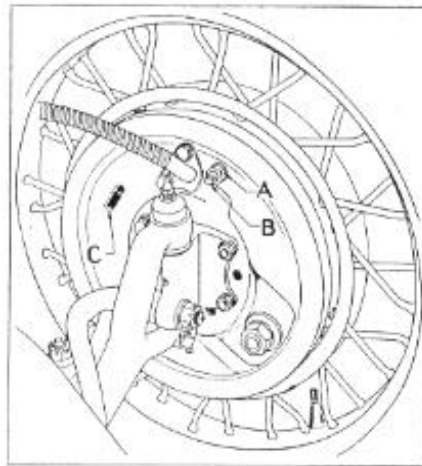

Figure 14
Jack up all four wheels clear of the ground. Remove wheels from hubs. Remove inspection hole cover on drums. Place a .010" feeler gauge through the brake drum inspection hole between the lining of the upper shoe and the drum. Loosen the eccentric lock nut (A), Figure 14, and turn the eccentric (B) in the direction of forward wheel rotation until the feeler is held snug. Tighten lock nut (A). The clearance around the lining of the upper shoe should not vary more than .003". If a greater variation exists, a major adjustment should be made by an Authorized Terraplane and Hudson Service Station. Turn the star wheel with a screwdriver inserted through the adjusting hole (C),